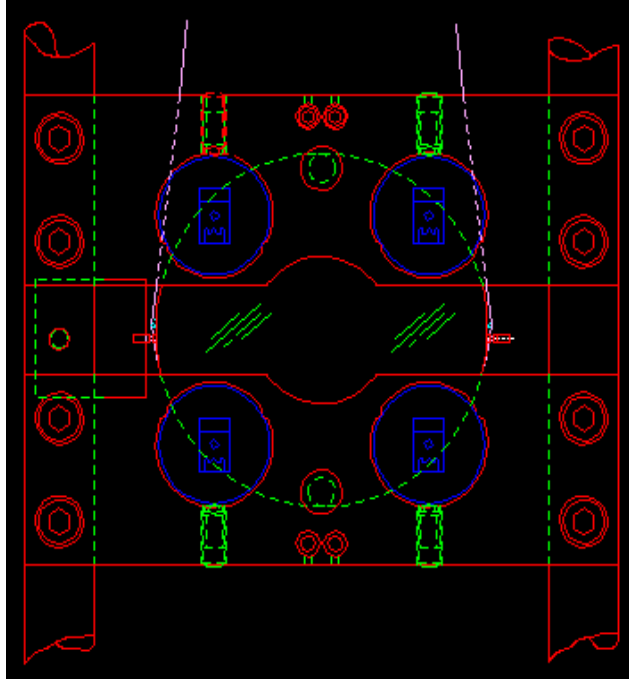

Figure 2: Sensor/Actuator Head Assemblies Orientation
4. Check for 12 Hz spike: The vertical resonant frequency of the wire is about 12 Hz. The orientation of the LED/photodiode pair in each sensor/actuator head affects the magnitude of this resonance's coupling into the pitch and yaw resonant frequencies. While moving the sensor/actuator head assemblies near the magnets on the optic, check the orientation of the sensor/actuator head assemblies. Generally, the optimum position is near to vertical, in that the photodiode is directly over the LED in a vertical orientation, as shown in Figure 2 below. If the oscilloscope shows a sharp spike around 12 Hz., slowly rotate the head assembly until the spike is at a minimum. Generally this is within 20 degrees of the vertical.